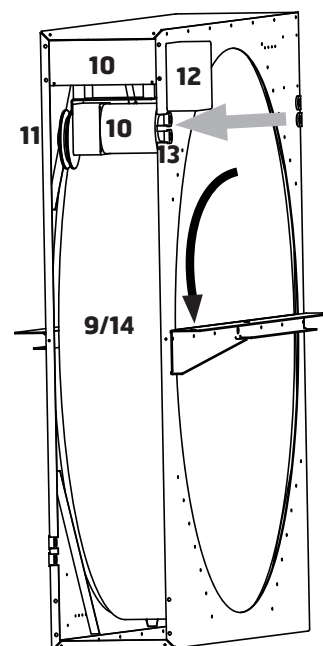

Fig 2A Rotor - After relocation
- 15 Check that the rotor is rotating in the correct direction (see directional arrow in Fig. 2A)